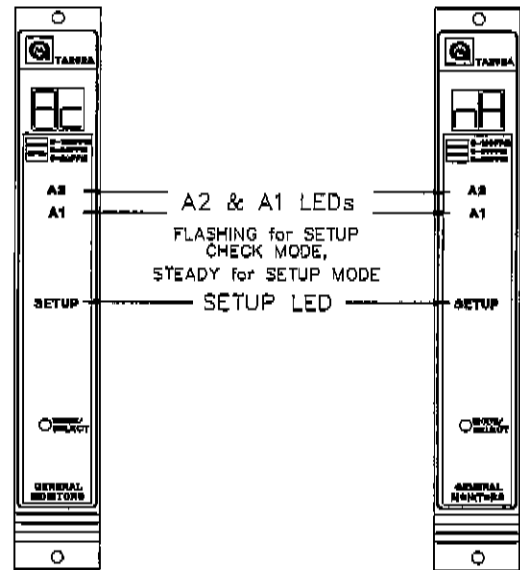

Figure 26
- Next, the display will indicate the alarm output option during a Card Test as either **Ac**, active or **nA**, not active. (figure 26). Not Active is the factory default for this selection.